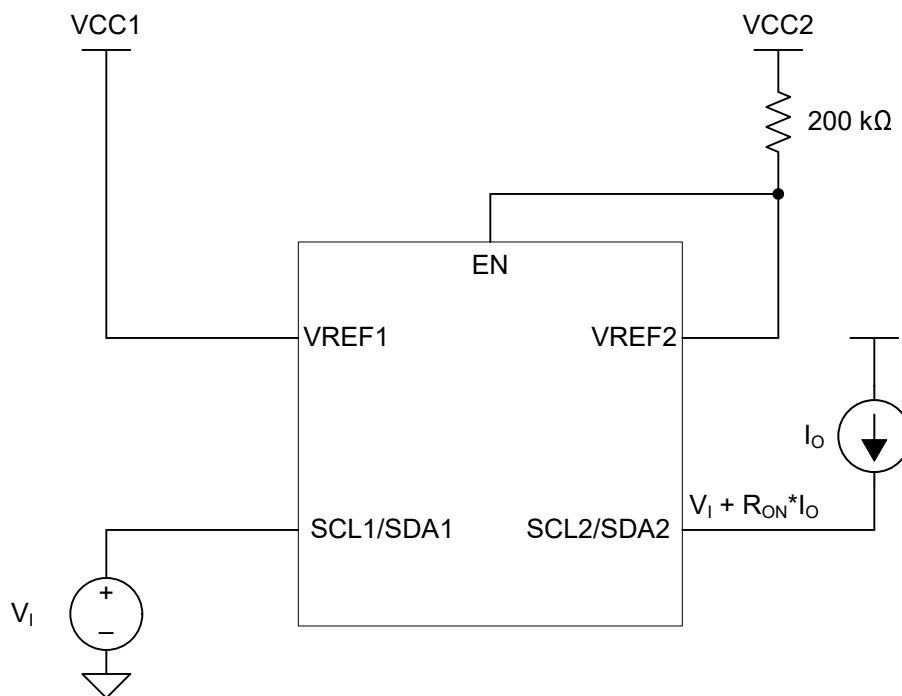

Figure 7-2. Application Setup for R_{ON} Delay
(5) Measured in application connected current source configuration only. See Figure 7-2